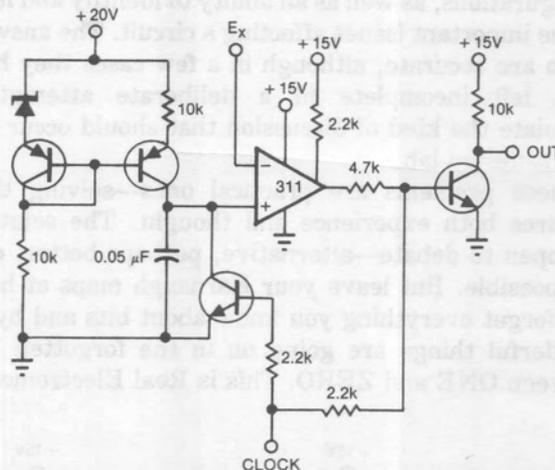

Fig 5—This pulse-width modulator's linearity varies with its clock frequency. What's at fault?
7. The circuit shown in Fig 5 is a pulse-width modulator. At a given clock frequency, its linearity ( $E_x$  vs pulse width out) is good (typically 0.01%), but when the clock frequency changes, the linearity varies slightly. What is at fault and why?